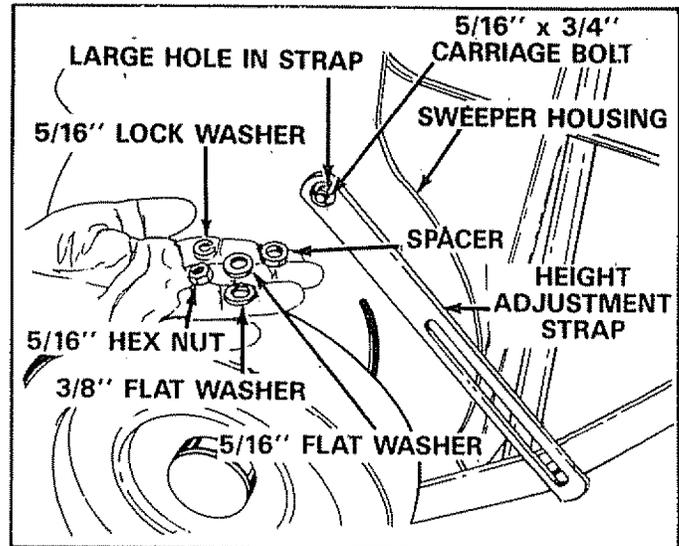

FIGURE 8
9. Assemble the height adjustment strap (hole end) to the sweeper housing. See figure 8. Place 5/16" x 3/4" carriage bolt through the square hole in right hand side of sweeper housing. Next place 3/8" flat washer next to housing, then spacer into large hole on strap and over end of carriage bolt. Secure with 5/16" flat washer, 5/16" lock washer and 5/16" hex nut. See figure 8.